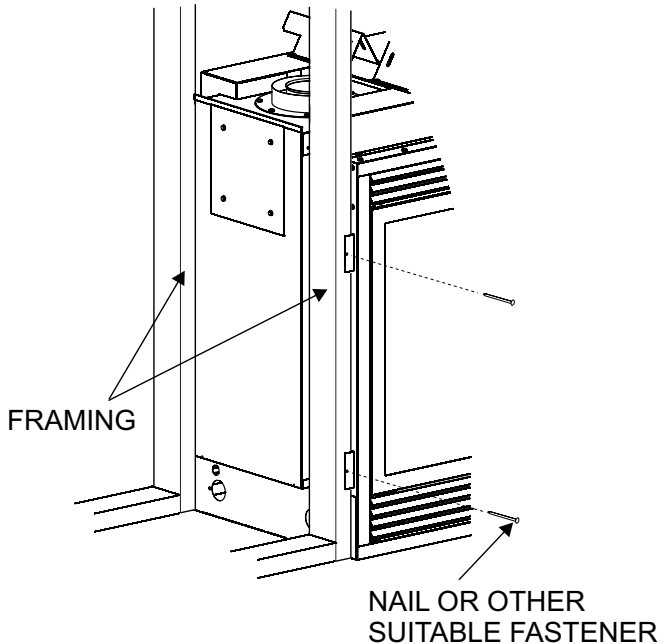

Figure 15
## Flush Mount Mantel Installation - See-through Models Only (Figure 15)
The fireplace must extend 3/4" beyond finished wall surface when using a flush mount mantel on see-through models. Refer to Figure 15 to locate nailing flanges on fireplace sides. Use eight (8) 1/2" hex-head screws supplied in hardware package to attach nailing flanges to fireplace sides.